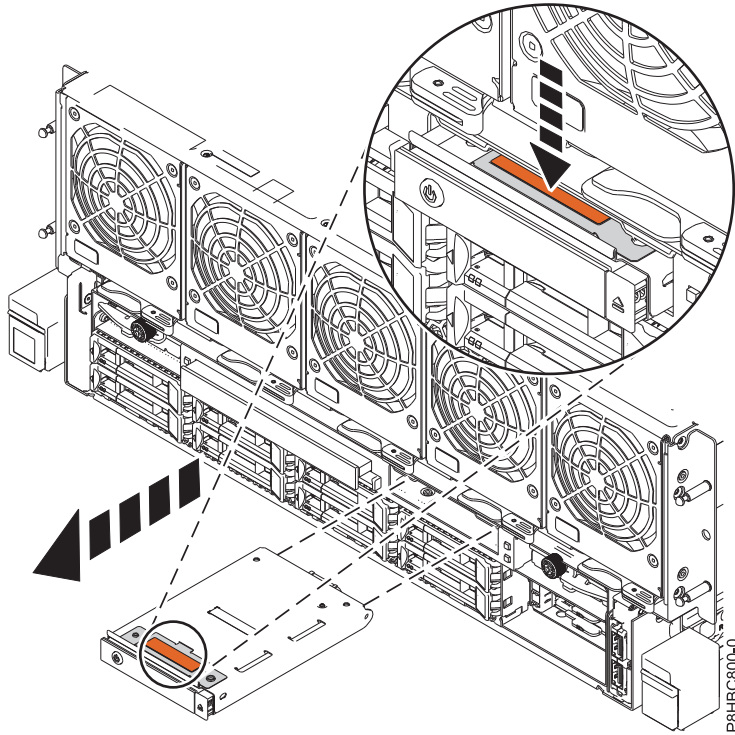

Figure 3. Removing a control panel
- a. Press the terracotta tab and then slide the control panel straight out of the slot See Figure 3 on page 5.